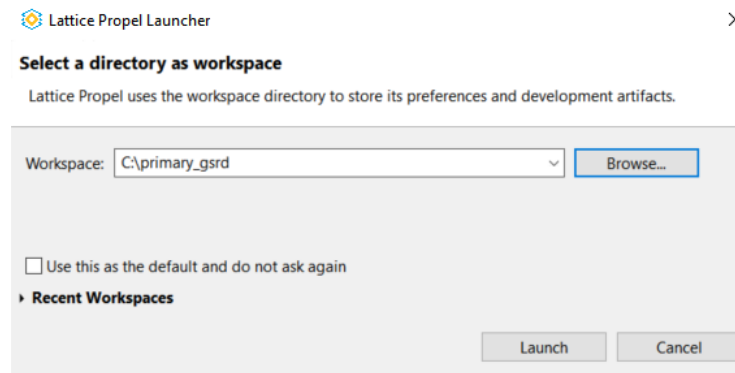

Figure 8.2. Provide Name for the Workspace Directory
3. To select the workspace, browse to the created folder by clicking on the **Browse** button as shown in Figure 8.2 and click on **Launch** to launch the workspace.